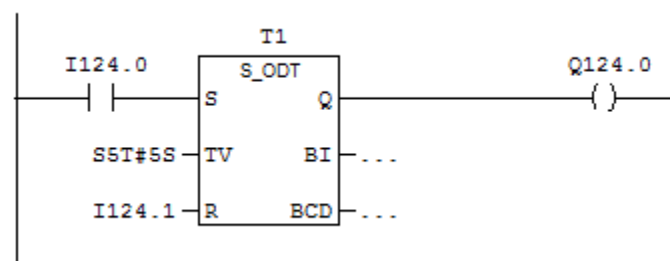

Figure 16. Ladder diagram of Timer On Delay
- Configure ladder diagram for timer on delay as shown in Figure 16.